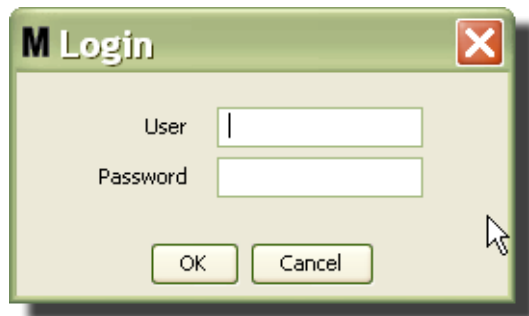

FIG. 223
3. The popup box shown in FIG. 223 appears for you to provide a User Name and Password.